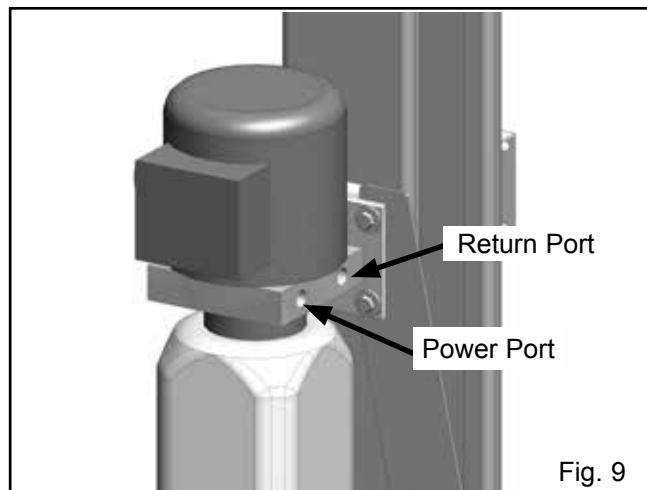

Fig. 9
1. Install the 90-degree Hydraulic Fitting to the POWER PORT and the 90° Air Line Compression Fitting to the RETURN PORT of the Power Unit and connect the Hoses as described below. It will be necessary to remove the shipping plugs from both ports prior to installing the Fittings. On the pipe thread side of the fitting it is recommended to use Teflon tape or pipe sealer. **DO NOT USE TEFLON TAPE** on the JIC flared end. It will be necessary to remove the shipping plugs from both ports prior to installing the fittings. (See Fig. 9- 9.1 -9.2)